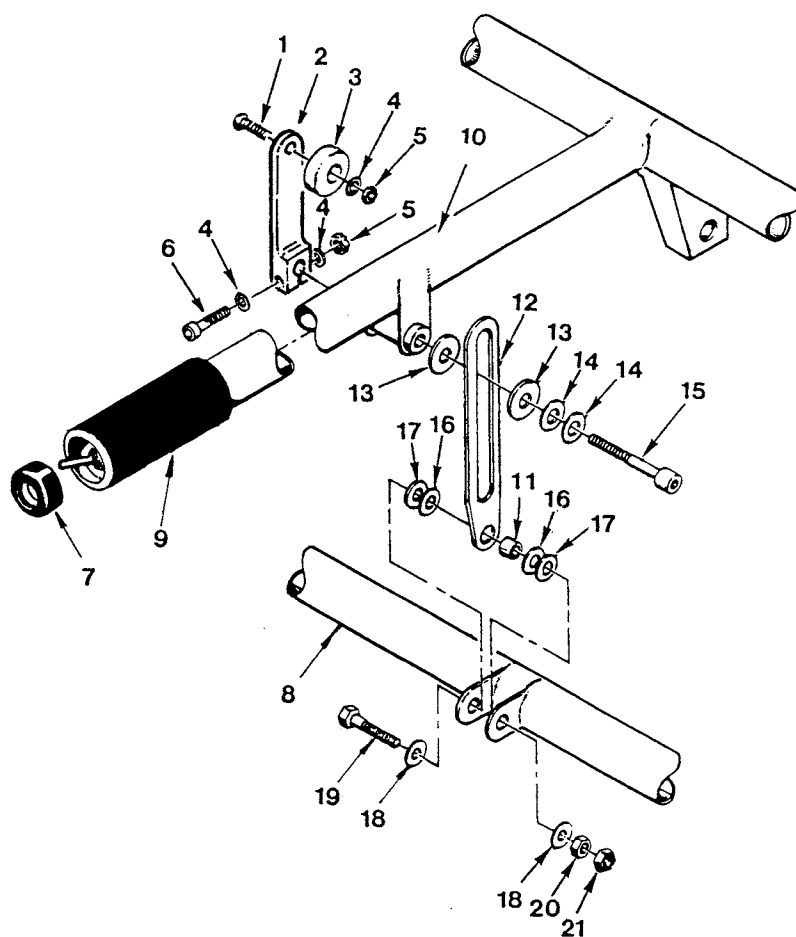

FIGURE 8-5 COLLECTIVE FRICTION ASSEMBLY
- a. Assemble A332-1 friction lever per Figure 8-5. The spring washers, item 14, should be assembled with their concave sides together. The two washers, item 13, are installed with the grey Teflon®-coated surface against the A333-1 stop (item 12). The A332-1 lever is threaded onto the NAS1352-4-24P screw as the screw starts to protrude from the attachment fitting.